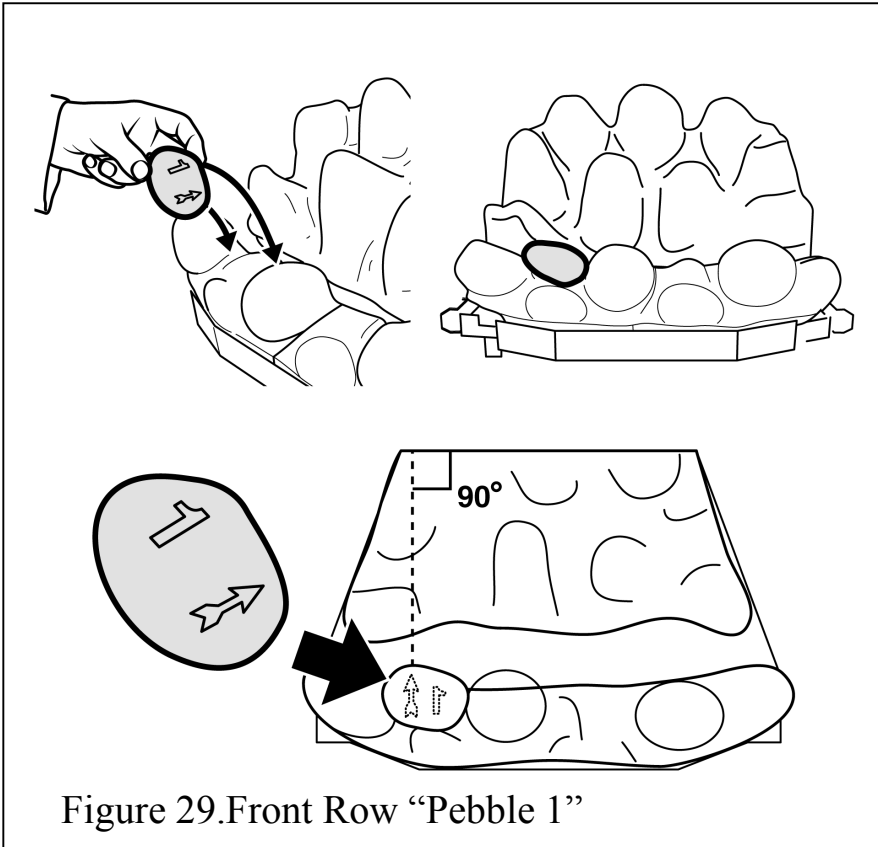

Figure 29. Front Row "Pebble 1"
6. The pebbles should be positioned so that the arrows always point towards the back of the fireplace opening. When located into position the stem of each arrow should be at 90° to the rear of the fireplace opening (See figure 29).